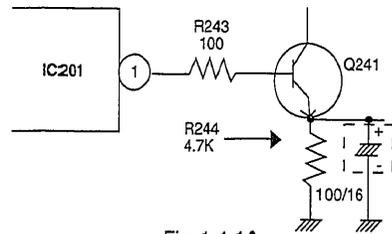

Fig. 1-4-1A
- (1) Set VR (R0403) fully counterclockwise. Set Q241 EMITTER to GND through 100 uF/16V capacitor as shown below in figure 1-4-1A.